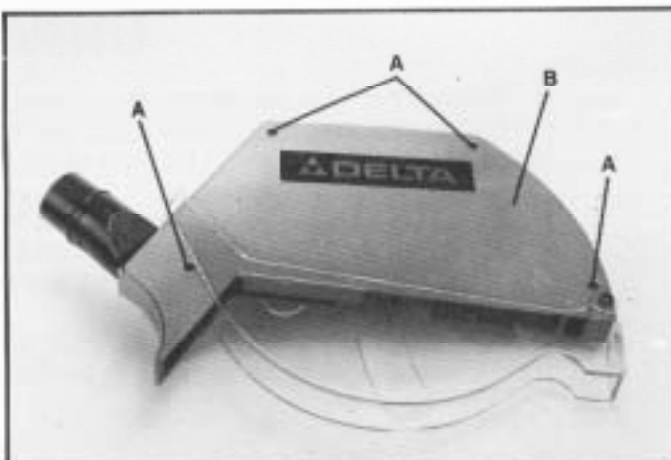

Fig. 5
1. Remove four screws (A) Fig. 5, and blade guard side cover (B).